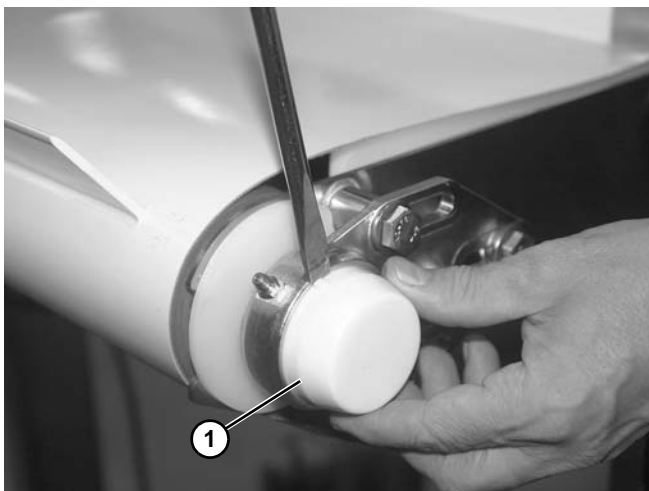

Figure 122
3. Remove bearing cover (**Figure 122, item 1**).